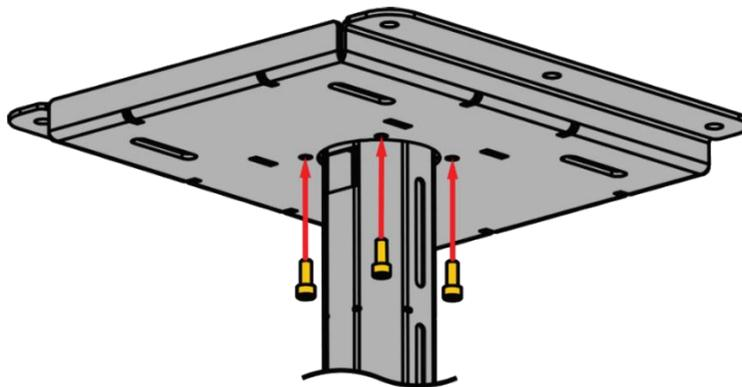

Figure 72:
Step 2: Attach the upper tube ② to the ceiling plate ① with bolts ④ (4 pcs.), as shown in **Figure 72**.